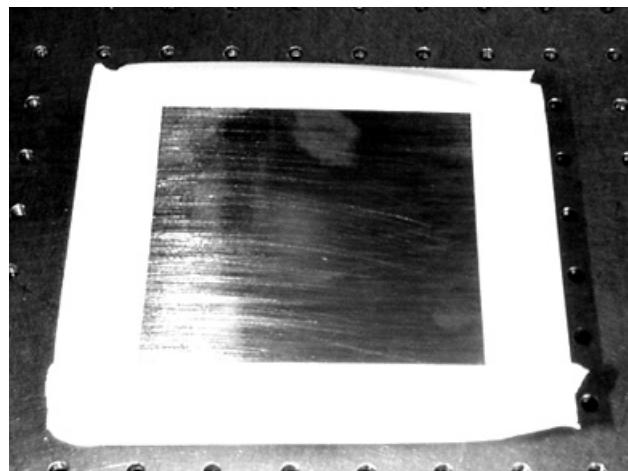

Figure 6-5. Preparation of the Replacement FAP-I Assembly
2. Apply the die-cut template to the bottom of the diode to avoid contaminating the screw holes with thermal compound in the next step. Alternatively, place masking tape over the edges of the FAP-I baseplate as illustrated in Figure 6-5.